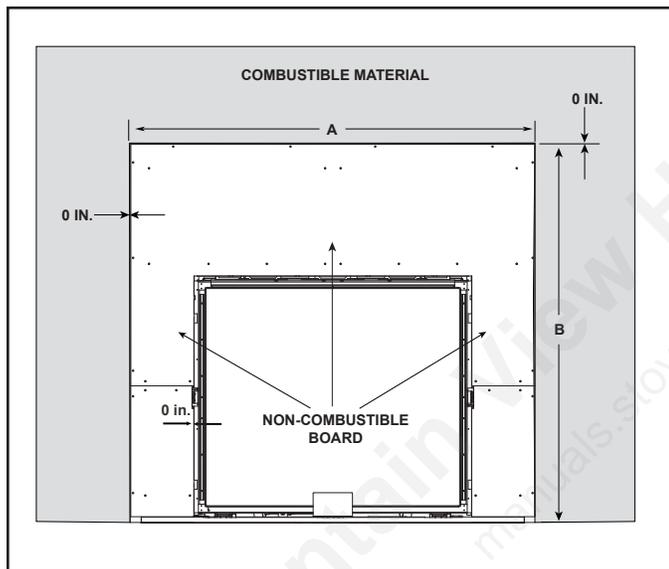

Figure 10.5 Non-combustible Facing Diagram
- Seal joints between the finished wall and appliance top and sides using a 300°F minimum sealant. Refer to Figure 10.5.